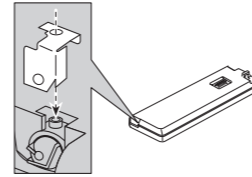

Fig. 12
1. Attach the holder to the front panel. (Fig. 12)